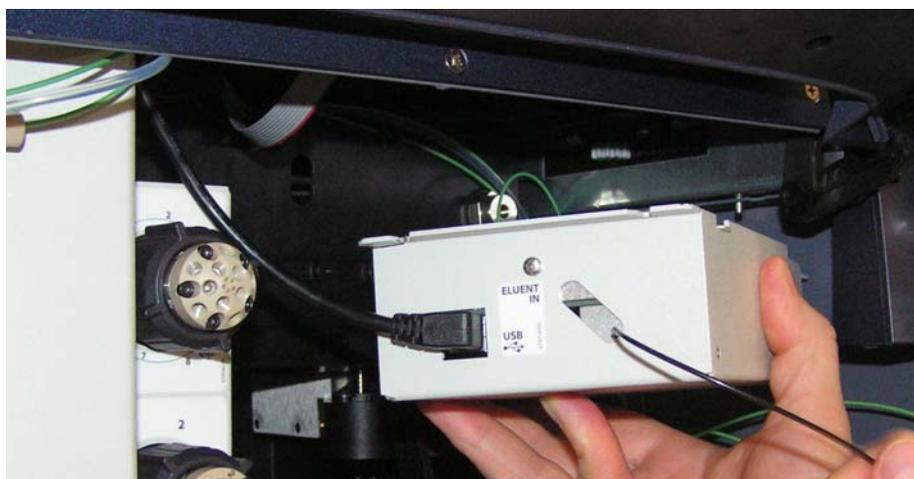

Figure 5. Sample Conductivity and pH Accessory USB Cable Connected
5. Pull out the cable slightly and plug the cable into the USB connector on the left side of the accessory (see Figure 5).